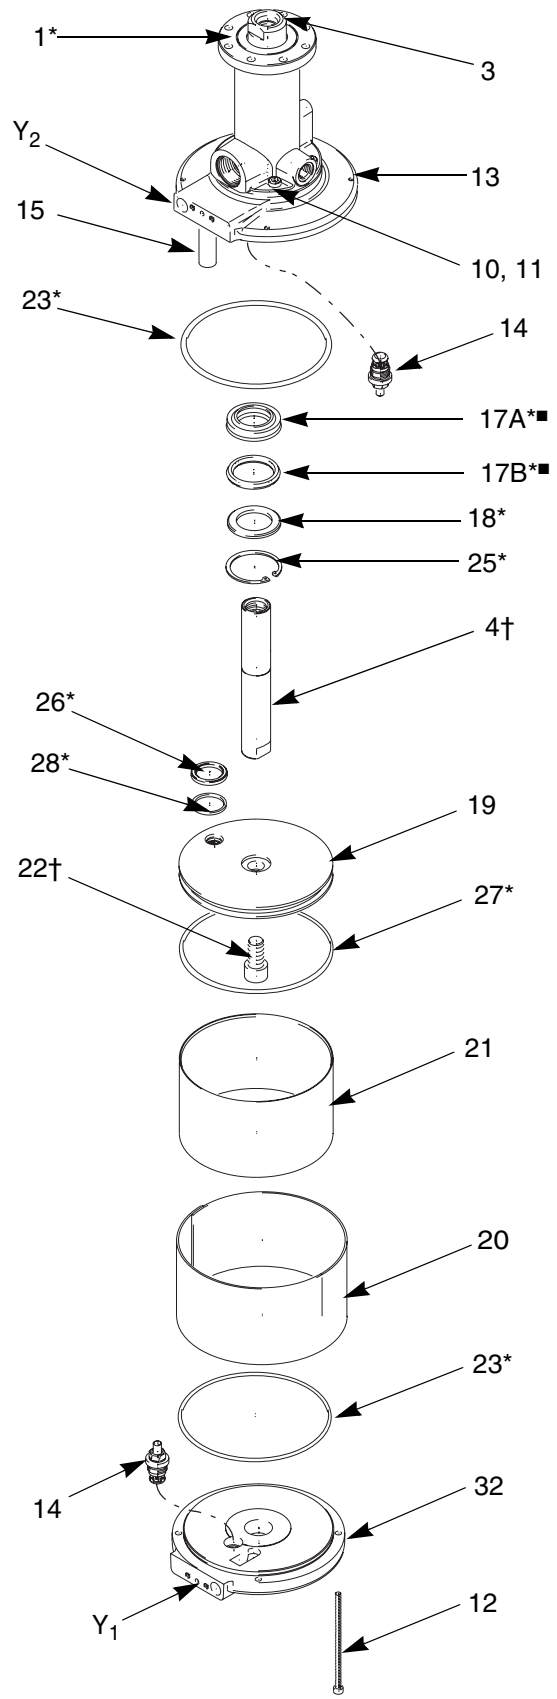

FIG. 8
2. Remove the air valve (29) and gaskets (34*) (page 16).
3. Remove the screws (12). Remove the cylinder cover (32) from the air motor. Remove the pilot valve (14) and the o-ring (23*) from the cover. See FIG. 8.
4. Remove the round cover (20) and cylinder (21). Inspect the inside surface of the cylinder for scratches or other damage. See FIG. 8.
5. Remove screws (10) and lock washers (11). Verify the piston (19) is in its fully extended position (threaded insert (3) protrudes from the top of the housing).
6. Remove the threaded insert (3) from the top of the housing and pull the piston (19) and rod (4†) straight out of the bottom of the housing. Do not tilt the piston to prevent damage to the rod. Remove the o-ring (27*). See FIG. 8.
7. Inspect the piston rod (4†) for wear or damage. If the rod is damaged, disassemble the piston assembly. Keep the piston (19) for reuse. Discard the piston rod (4†) and the cap screw (22†). These parts must be replaced together.
8. Remove the o-ring (23*) and pilot valve (14) from the air motor base (13). Use a clip removal tool to take out the c-clip (25*), then remove the washer (18*), ring and seal (17A* and 17B*). Note the orientation of these parts. See FIG. 8.
1. Lubricate the o-ring and the center bore in the base (13). Install the seal (17B*) with the groove facing away from the bellows, then install the ring (17A*) in the groove with notches facing up. Install the washer (18*) with the flat side facing up, then the retaining ring (25*). See FIG. 8.
2. Install the o-ring (23*) and the pilot valve (14) on the air motor base. Torque the pilot valve to 25 N•m (18 ft-lb).
3. If the piston was disassembled, reassemble the cap screw (22†), piston (19) and rod (4†), using Loctite® from the kit on threads. See FIG. 8. Make sure the flat side of the piston faces down. Torque the cap screw to 150-163 N•m (110-120 ft-lb).
5. Place the o-ring (27*) on the piston (19). Grease the piston rod (4†) and o-ring (27*), and carefully insert the piston rod through the hole in the base (13). Align the hole in the piston with the orientation bolt (15) in the base until the piston rests against the base.
6. Install lock washers (11) and screws (10). Torque to 10-11 N•m (90-100 in-lb).
8. Install the threaded insert (3) onto the end of the rod from the opposite end and tighten.
9. Generously grease the lower half of the cylinder's (21) inside surface. Install the cylinder and the side cover (20). See FIG. 8.
10. Install the o-ring (23*) and the pilot valve (14) on the inside surface of the bottom cover (32). Torque the pilot valve to 25 N•m (18 ft-lb). Lubricate the o-ring. Install the bottom cover (32), making sure the air valve porting (Y₁) faces the same way as the porting on the base (Y₂). Torque the screws (12) to 10-11 N•m (90-100 in-lb). See FIG. 8.